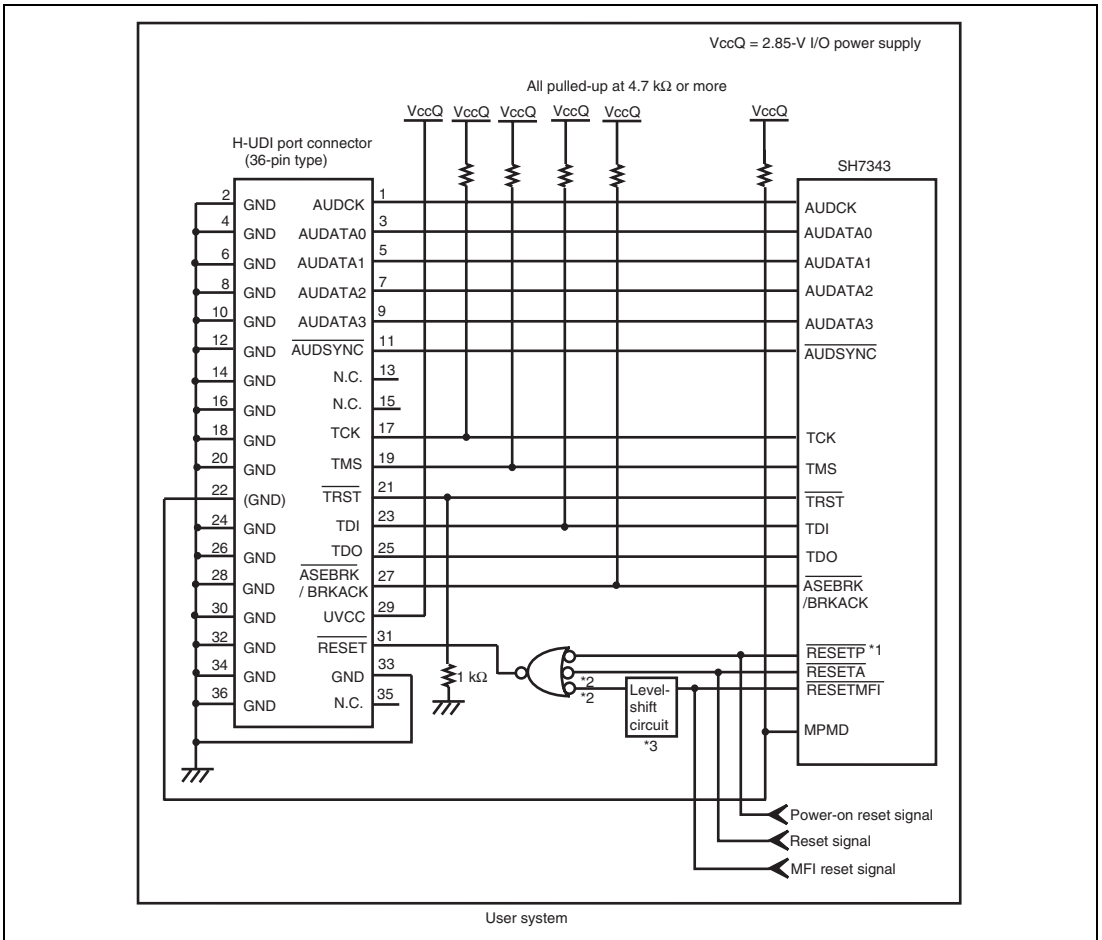

Figure 1.3 Recommended Circuit for Connection between the H-UDI Port Connector and MPU when the Emulator is in Use (36-Pin Type)
5. Connect /RESETP, /RESETA, and /RESETMFI to the user system if required, as shown in figure 1.3.
Figure 1.3 shows a recommended circuit for connection between the H-UDI and AUD port connectors (36 pins) and the MPU when the emulator is in use.
- (1) When the emulator is used: MPMD = 0
- (2) When the emulator is not used: MPMD = 1Figure 1.3 shows an examples of circuits that allow the MPMD pin to be GND (0) whenever the emulator is connected by using the user system interface cable.
7. The resistance values shown in figure 1.3 are reference.
When the circuit is connected as shown in figure 1.3, the switches of the emulator are set as SW2 = 1 and SW3 = 1. For details, refer to section 3.8, Setting the DIP Switches, in the SuperH™ Family E10A-USB Emulator User's Manual.
3. When VccQ_MFI is used at 1.8 V, the level-shift circuit in figure 1.3 is required to adjust the signal levels.
- (1) When the emulator is used: $MPMD = 0$
- (2) When the emulator is not used: $MPMD = 1$Figures 1.3 shows an examples of circuits that allow the MPMD pin to be GND (0) whenever the emulator is connected by using the user system interface cable.